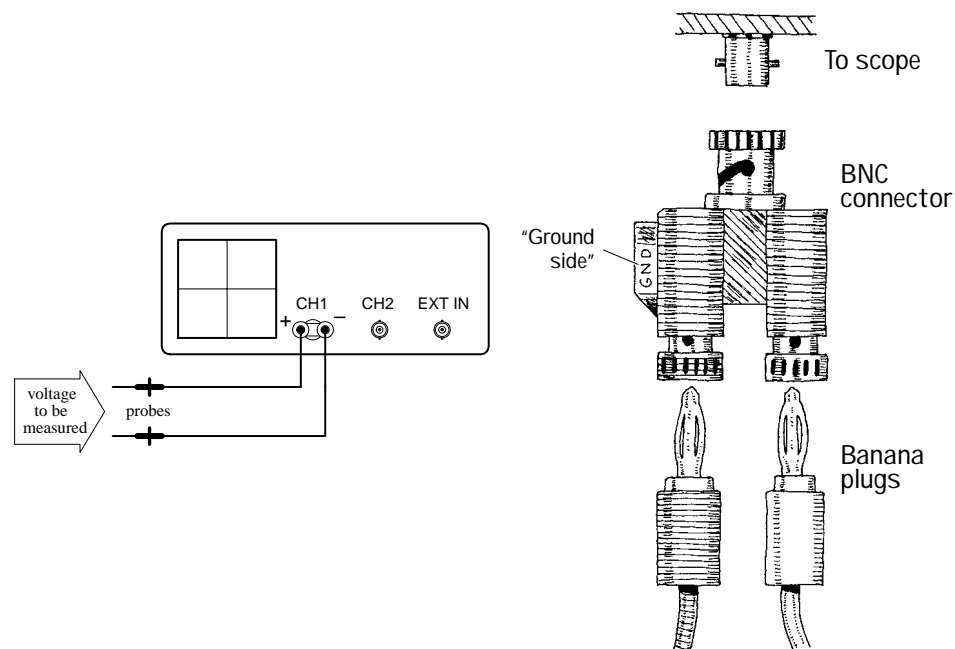

FIGURE 14.34
1. Connect the equipment as shown in Fig. 14.34.